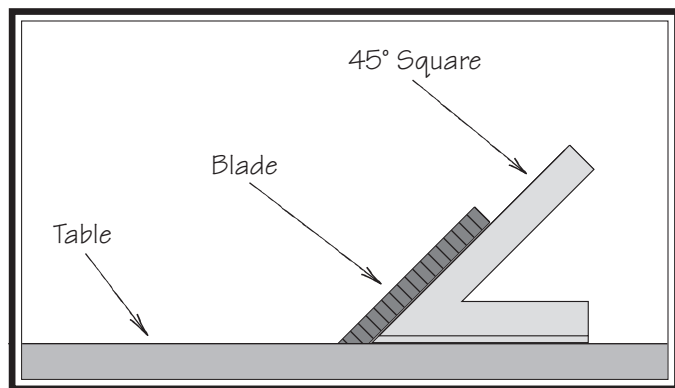

Figure 120. Checking blade at 45°.
3. Place a 45° square against table and blade and verify it contacts blade evenly from bottom to top, as illustrated in **Figure 120**. Make sure a blade tooth does not obstruct the placement of square.